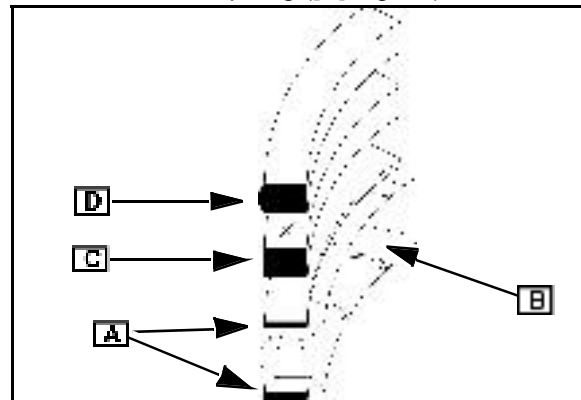

Fig. 13
NOTE: The top ring ([D] Fig. 13) is barrel faced and plated.
1. Install the expander oil and control rings (A) and expander (B).
2. Install the center ring (C) with the "Id" mark facing up.
3. Install the top ring ([D] Fig. 13).